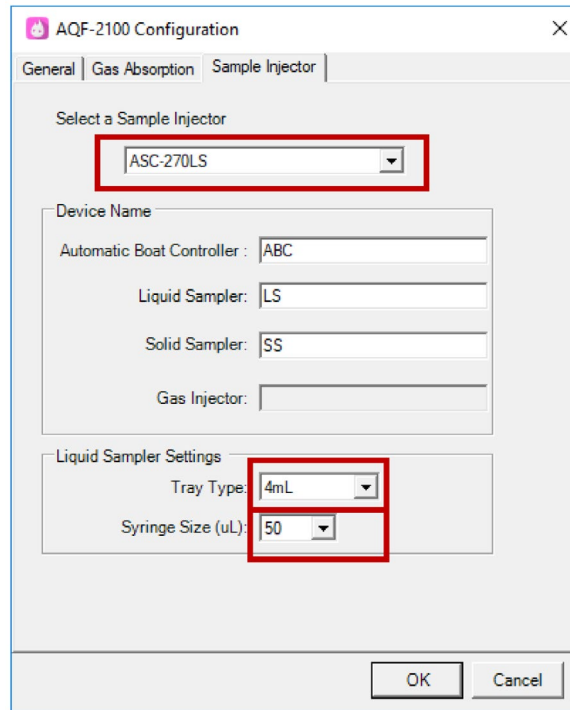

Figure 8. Sample Injector tab. Select the Sample Injector, Tray Type, and Syringe Size.
5. Select the Sample Injector tab. Select Sample Injector, Tray Type, and Syringe Size (Figure 8).